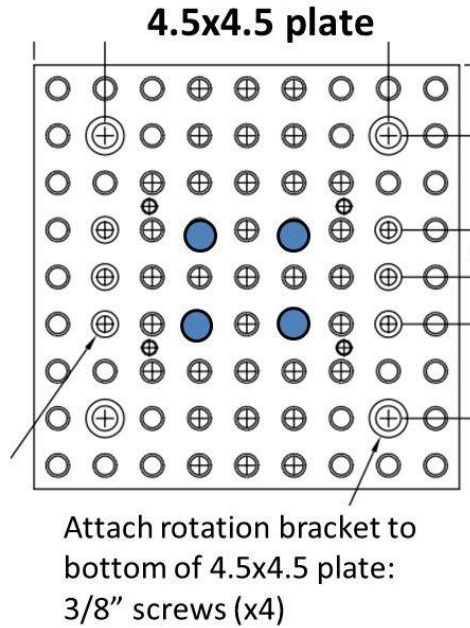

Figure 21: The bores outlined in blue are used to connect the adapter plate to the rotation platform (step 8)
8. Attach the 4.5x4.5" adapter plate (MB4A) to the rotating platform surface (side with two screws) with 3/8" screws (x4) (see Figure 21 for placement).